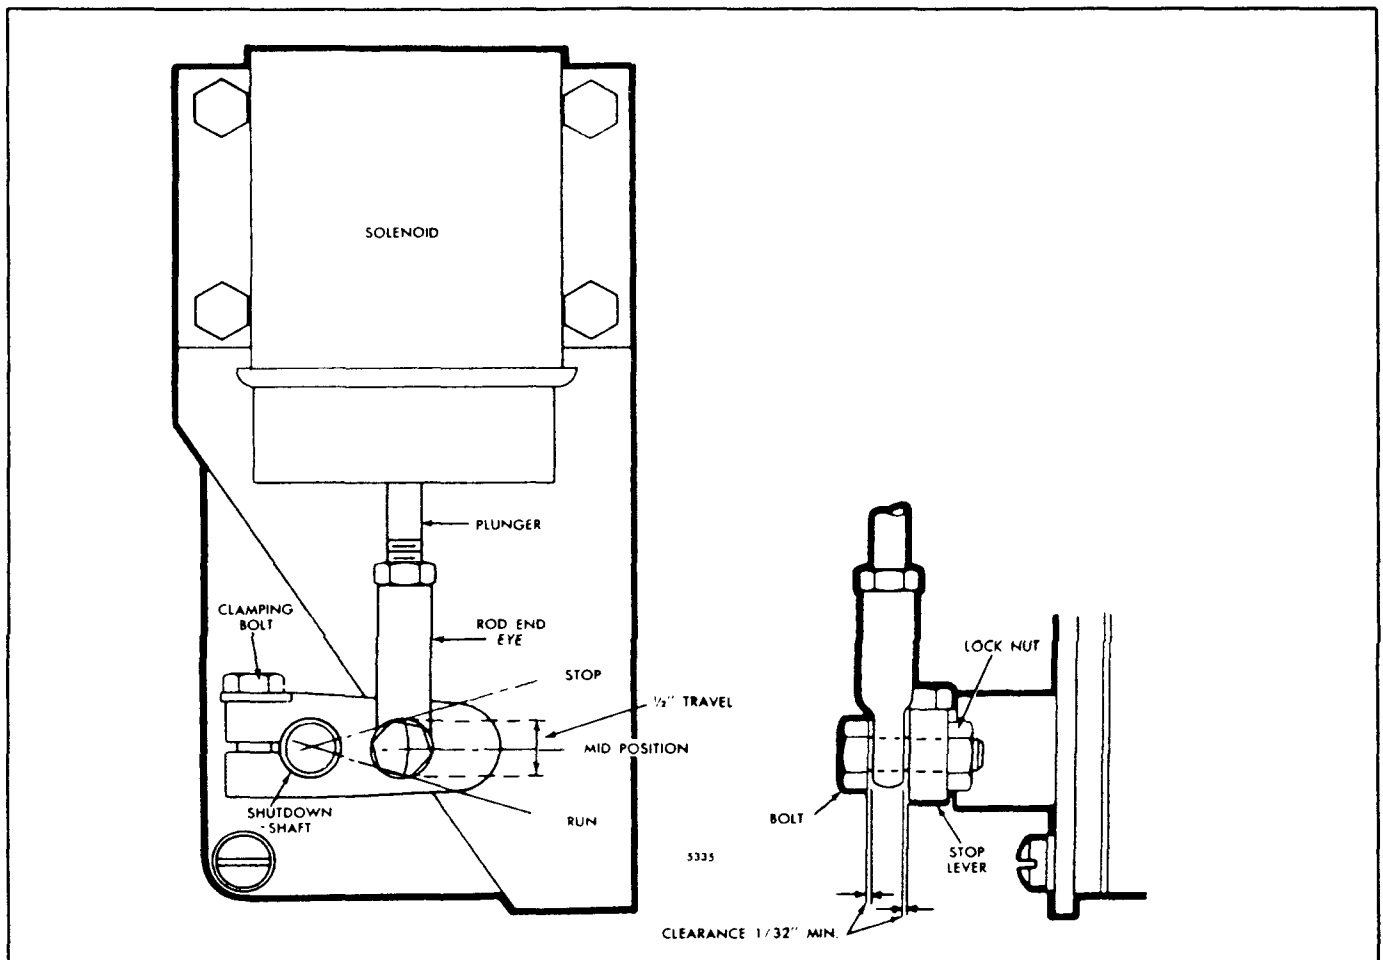

Fig. 7 - Typical Variable Speed Governor Lever Position
1. Remove the bolt connecting the rod end eye (variable speed governor) or the right angle clip (limiting speed governor) to the stop lever (Figs. 7 and 8). Align and clamp the lever to the shutdown shaft in such a way that, at its mid-travel position, it is perpendicular to the solenoid plunger. This assures that the linkage will travel as straight as possible. The solenoid plunger has available 1/2 " travel which is more than adequate to move the injector control racks from the full-fuel to the complete no-fuel position and shutdown will occur prior to attaining complete travel.